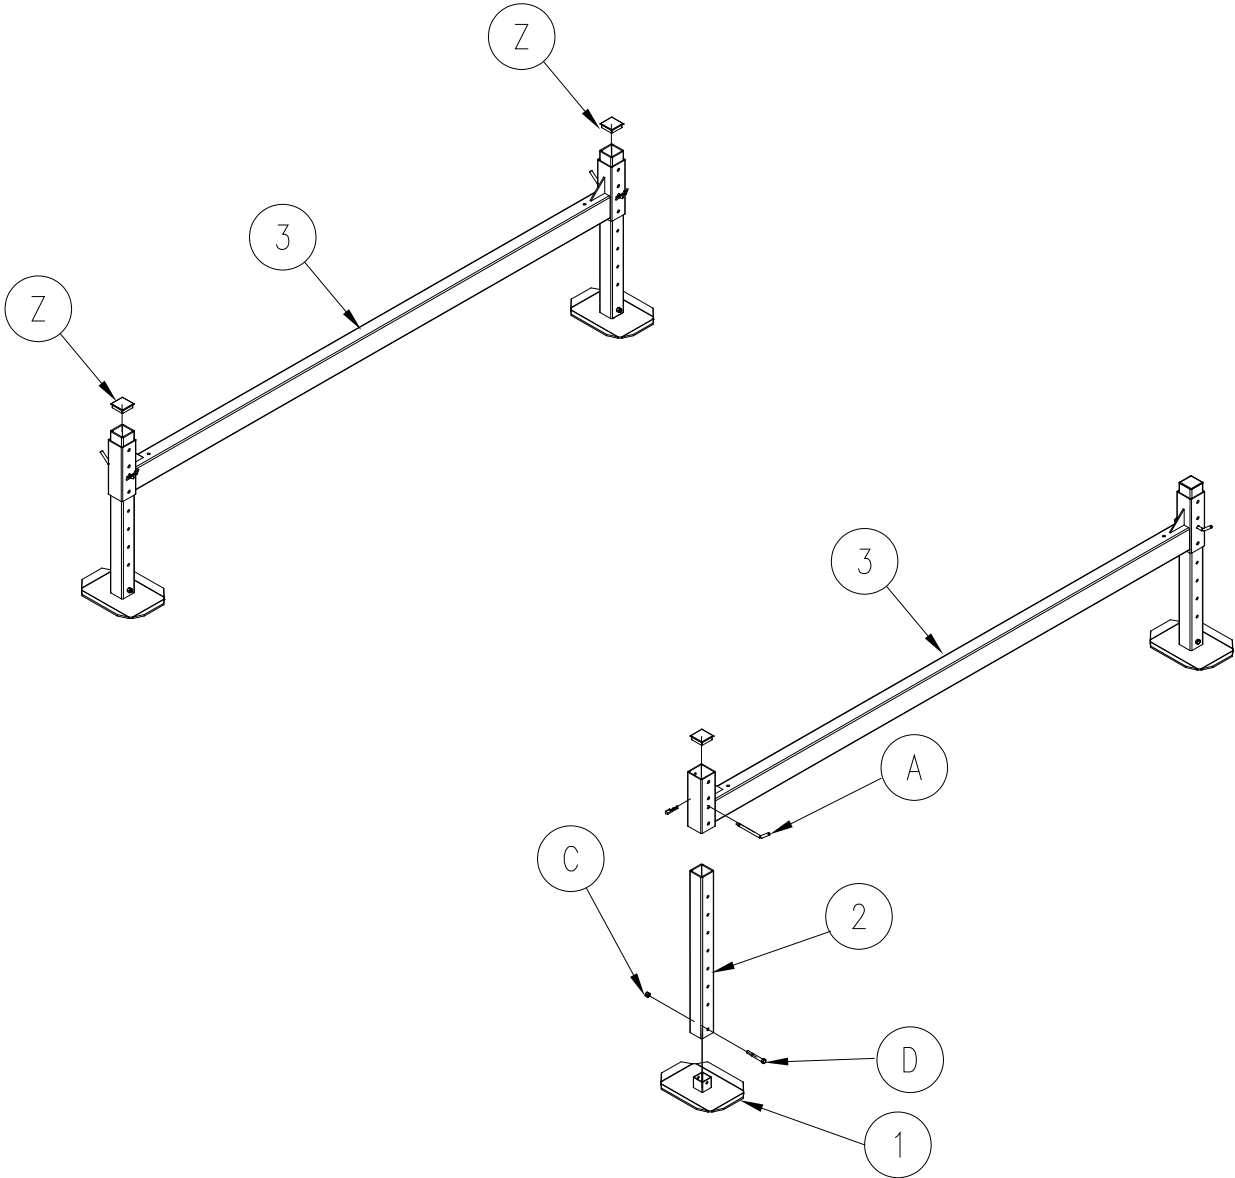

Figure 3-1.
- 1. Refer to Figure 3-1. Fasten foot plate (1) to extension leg (2) using hardware (C) and (D).
- 2. Insert foot plate and extension leg assembly into leg assembly (3). Insert leg pin and clip (A) to secure.
- 3. Install the four plastic cap plugs (Z) onto ends of the extension legs.